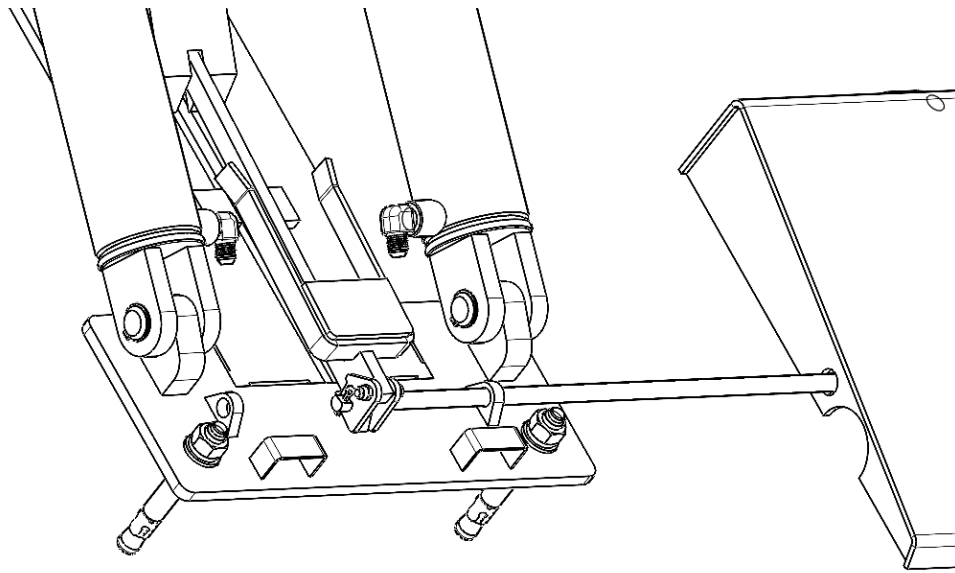

Fig. 8
- B. Insert the keyed end of the handle through the keyway in the latch release weldment as shown in Fig. 8.
- C. Install the roll pin into the end of the handle as shown in Fig. 8.